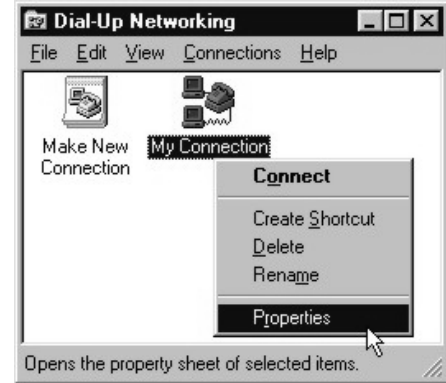

Figure 18 - Connection Properties
17. From the "Dial-Up Networking" window, right click on the connection that was just setup. (Fig. 18)